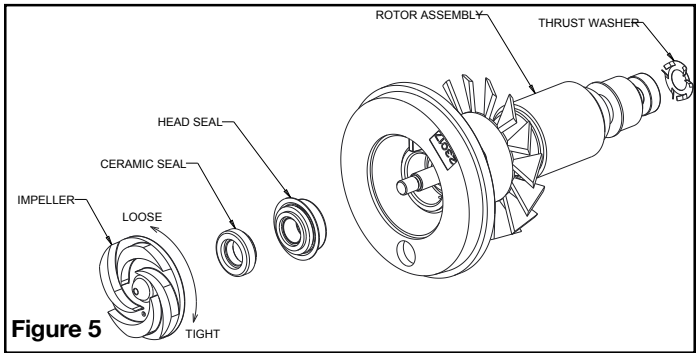

Figure 5
6. Remove the rotor assembly from the motor housing. There is a thrust washer in the bearing pocket at the back of the motor housing, if the thrust washer falls out make sure it is put back into the pocket before reassembling. Ref fig.5